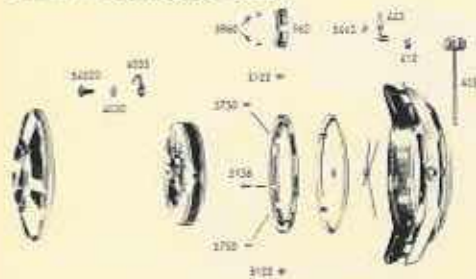

Fig. 17. Removing movement (battery type) from the watch case.
Removing the movement from the case (battery type): Refer to Figure 17. First remove the cell. Then unscrew the back of the case, remove the feed bridle (4035) and the setting lever (443). Withdraw the handsetting stem (405) and the handsetting pinion (412). Remove the two special case screws (5102) and take the movement out of the case, placing it dial side up on the flat side of the movement holder. Now remove the hands and dial and case bridle (960), loosen the screw of the plate-enlargement ring (5158) and finally withdraw the plate-enlargement ring.